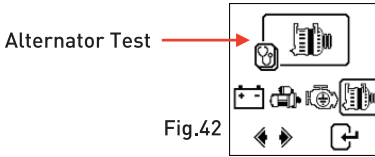

Fig.42
3. From the main menu (Fig.42), select  by scrolling right using ► key
15. Pressing the  key will exit and return back to the main menu screen (Fig.42)